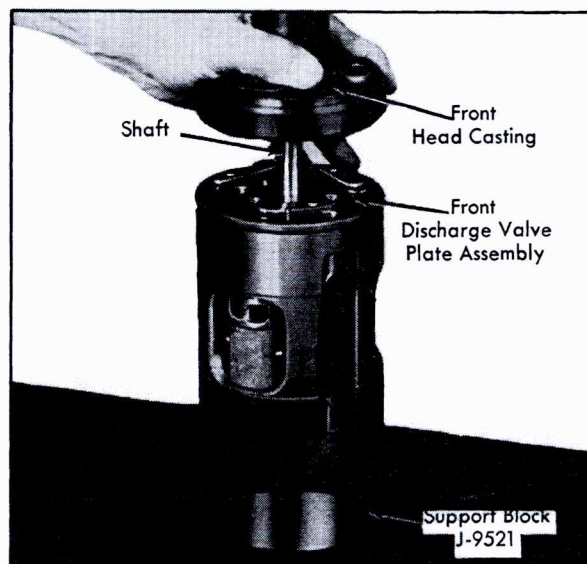

Fig. 1-74 Installing Front Head Casting
7. Determine exact position of front head casting in relation to dowel pins on internal mechanism. Mark position of dowel pins on sides of front head assembly and on sides of internal mechanism with a grease pencil. Carefully lower front head casting into position, Fig. 1-74, making certain that sealing area around center bore of head assembly does not contact shaft as head assembly is lowered. Do not rotate head assembly to line up with dowel pins, as sealing areas would contact reed retainers.